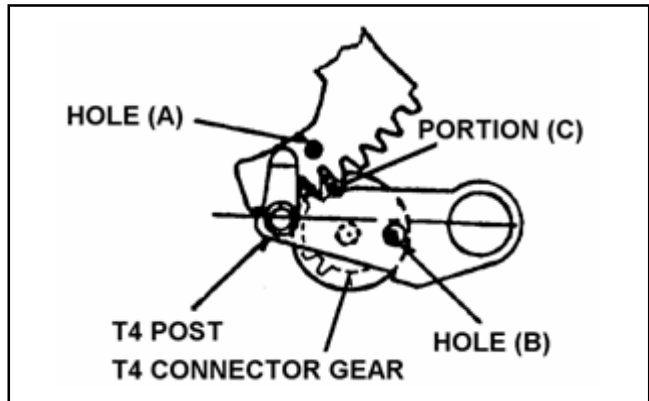

Figure 5-28-1
1. Confirm that the hole (B) of T4 connection Gear match with the hole of T4 post as shown in figure 5-28-1.
2. Confirm that the portion (C) of T4 connection Gear and hole (A). Those are located as shown in figure 5-28-1.